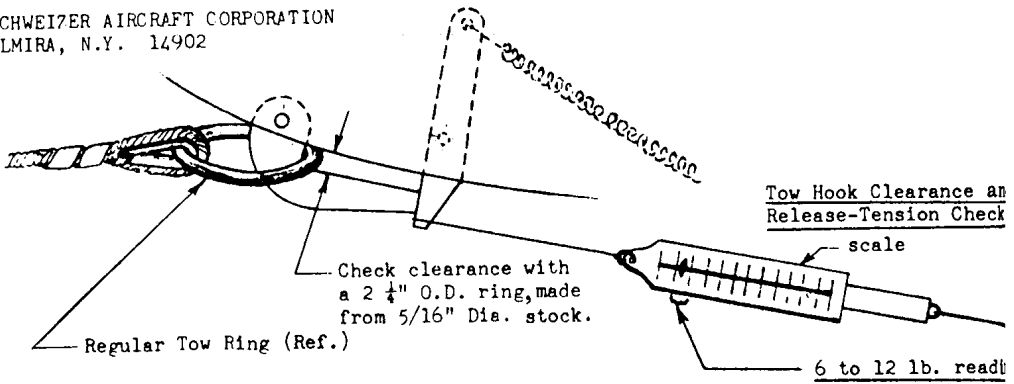

FIGURE 2.
- Tow hook release spring tension is checked by applying a force of 6-12 lbs. at the end of the release arm. The hook should then release. If the tension is not within this tolerance, the spring should be replaced. See Figure 2.